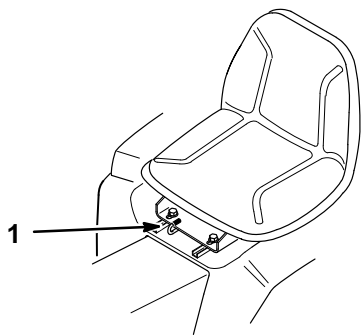

Figure 20
1. To adjust, move the lever sideways to unlock seat (Fig. 20).